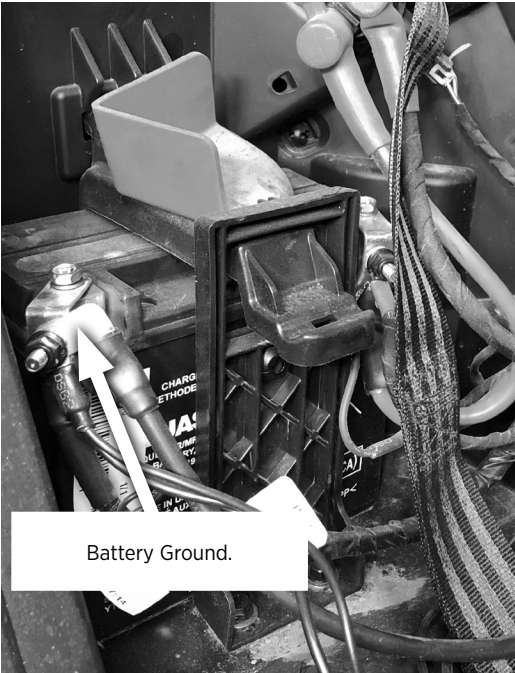

Figure 13a
1. Remove the vehicle's ground connection from the battery (Figure 13a).